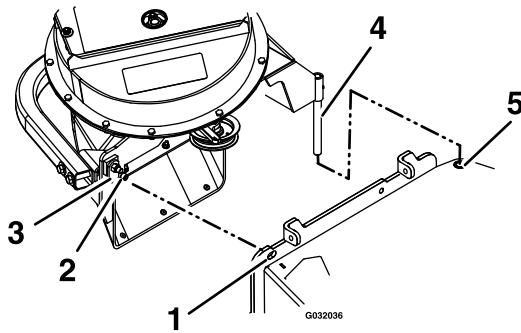

Figure 10
15. Mount the blower on the deck by inserting the mounting pin into the tube welded to the rear corner of the deck (see Figure 10). Pivot the blower until the front pin engages the slot in the deck. Adjust the position of the front pin if necessary to engage the slot. Use the latches to lock the blower in this position. Adjust the